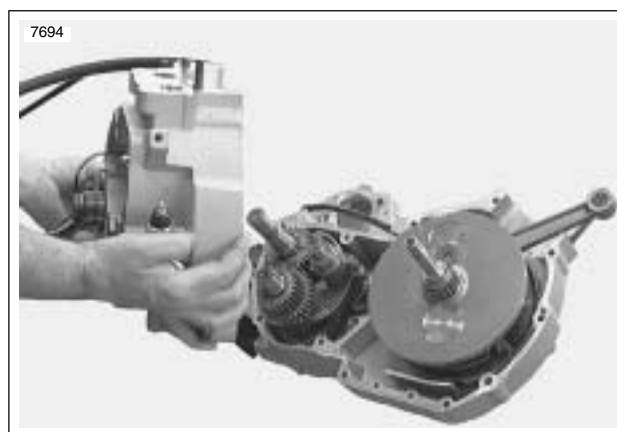

**Figure 6-48. Transmission Assembly**
2. See Figure 6-48. Place transmission assembly onto TRANSMISSION REMOVER/INSTALLER FIXTURE (Part no. B-43985-2) on arbor press.